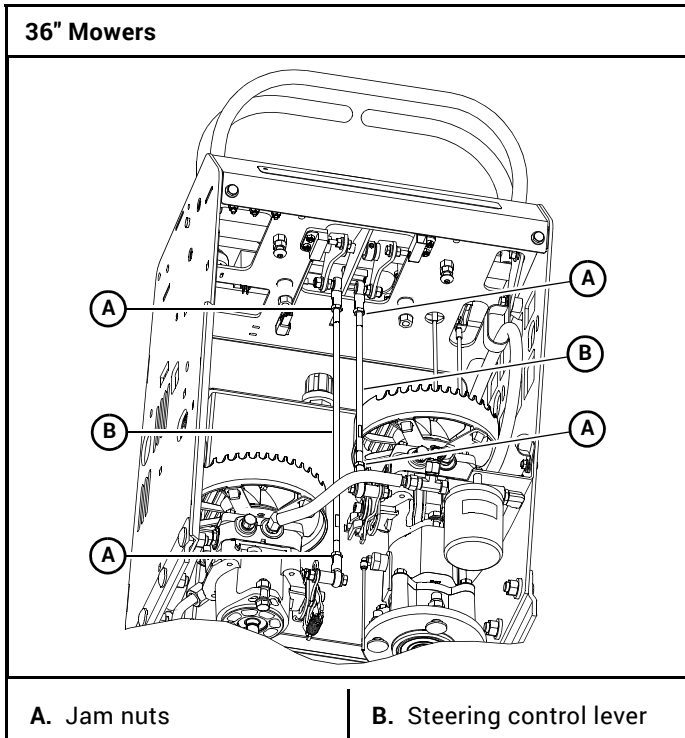
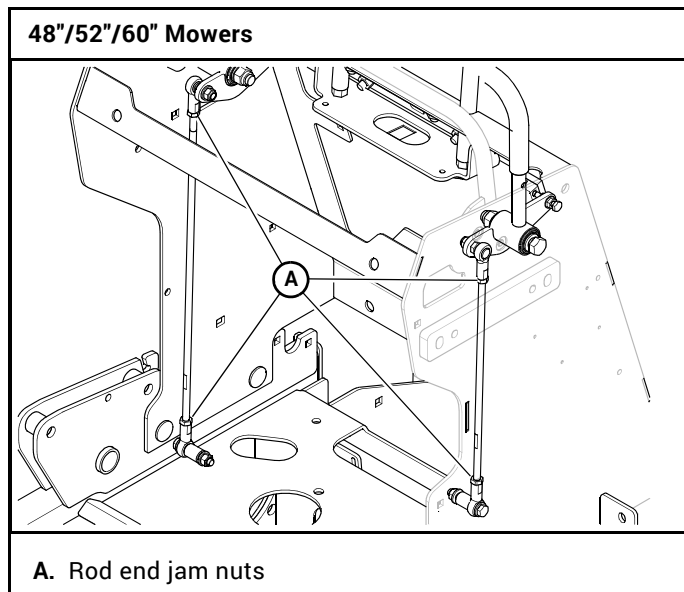

Figure 4-3
Figure 4-4
5. Observe which way the wheel(s) are rotating. If wheel(s) are rotating forward, loosen the jam nuts on the pump linkage rods and rotate the rod to lengthen the steering control linkage until the wheel(s) come to a stop. Figure 4-3 & Figure 4-4
6. If wheel(s) are rotating in reverse then loosen the jam nuts on the pump linkage rods and rotate the rod to shorten the steering control linkage until the wheel(s) come to a stop. Figure 4-3